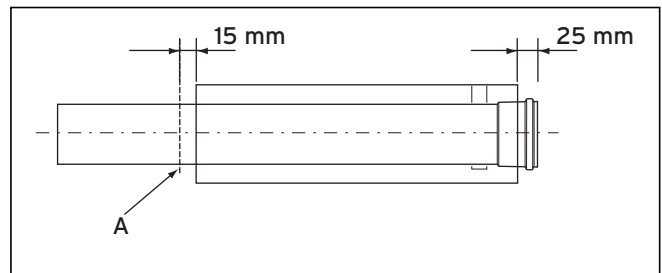

Fig. 3.11 Flue duct
- Cut the flue duct as detailed in fig. 3.11.